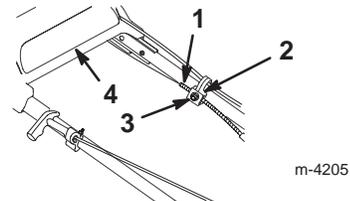

Figure 28
3. Loosen the cable support nut (Fig. 28).
5. With the upper handle pushed back as far as possible and while holding the drive bracket down, pull the cable jacket down (toward the lawn mower) until there is no slack in the cable (Fig. 28).
6. Tighten the nut on the cable support (Fig. 28).